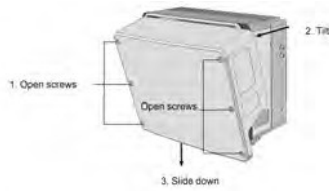

Figure 23: Removing the inverter cover
5. Open the inverter cover (see Figure 23).